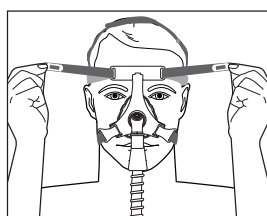

Figure 4
1. Adjust the headgear side straps evenly so the forehead pad is resting comfortably on the forehead (Figure 4). To adjust, peel the headgear tabs away from the headgear straps, evenly adjust straps, then press tabs against the headgear straps to reattach.